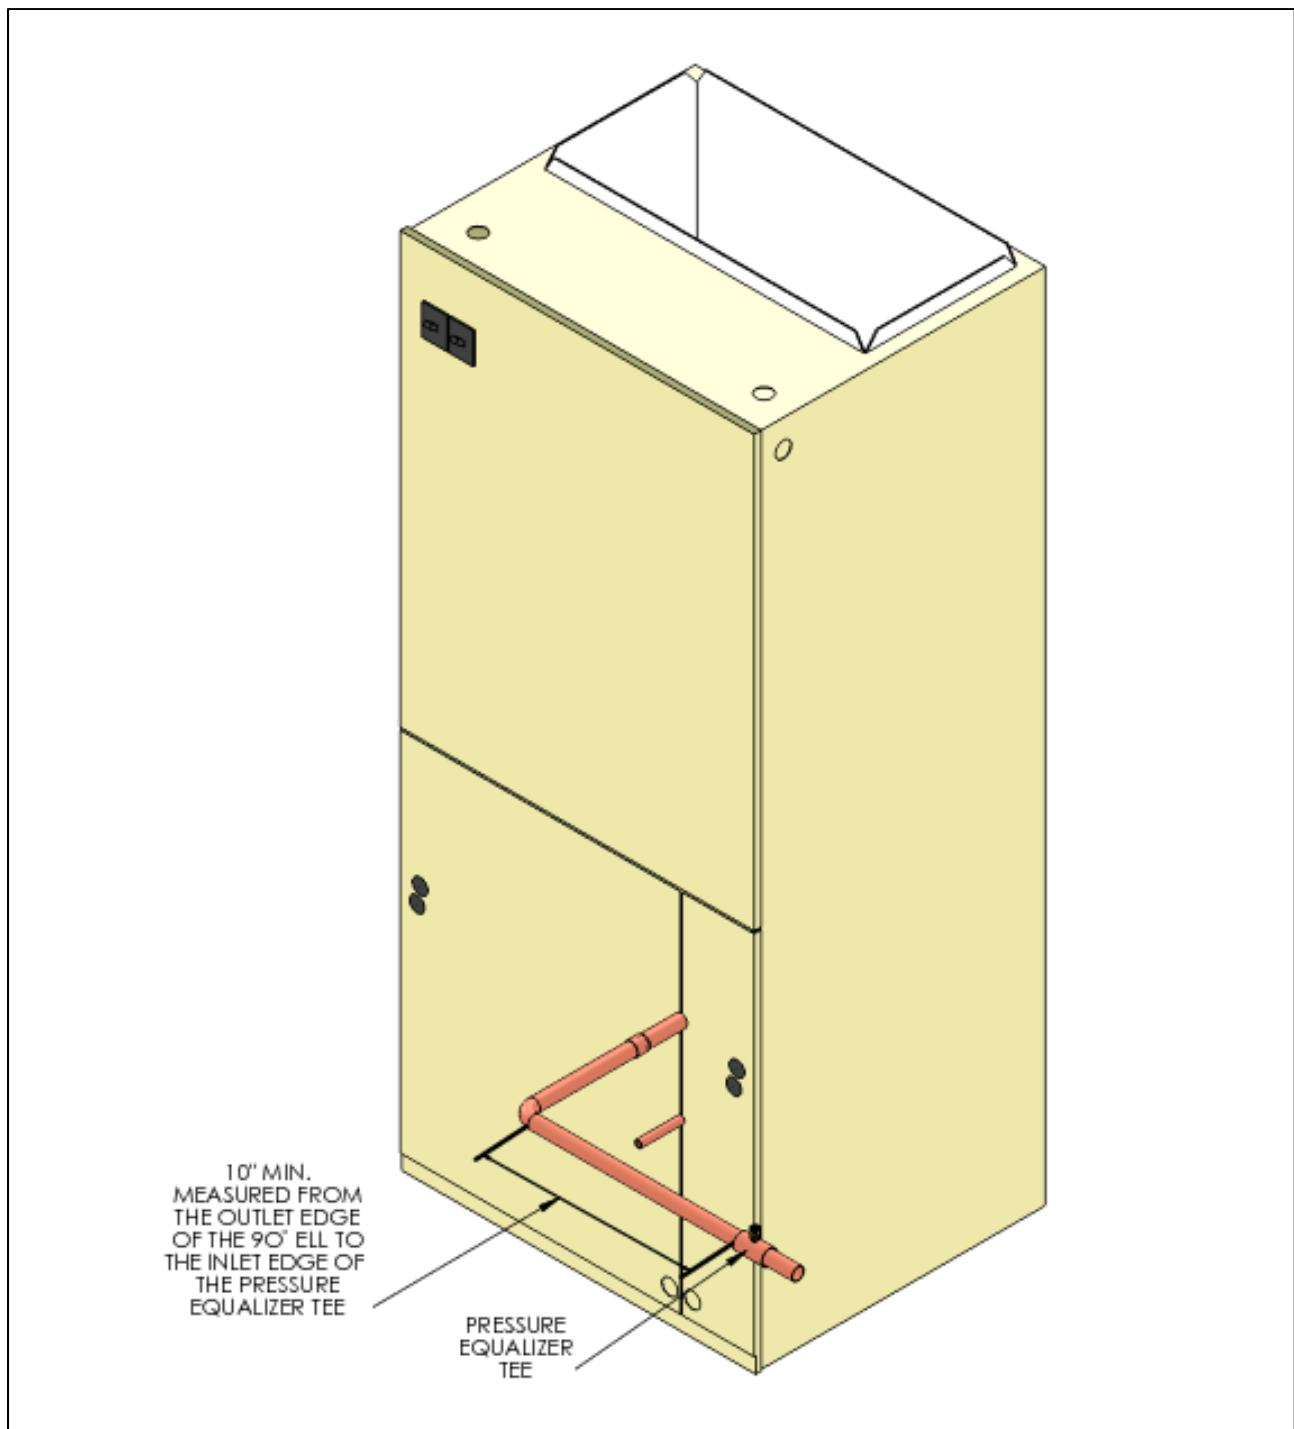

Figure 9. Positioning the Pressure Equalizer Tee
Step 2: Position the Pressure Equalizer Tee on the suction tube at least 10 inches downstream from the 90°ell, as shown in Figure 9. Remove the core from Schrader valve on the Tee.